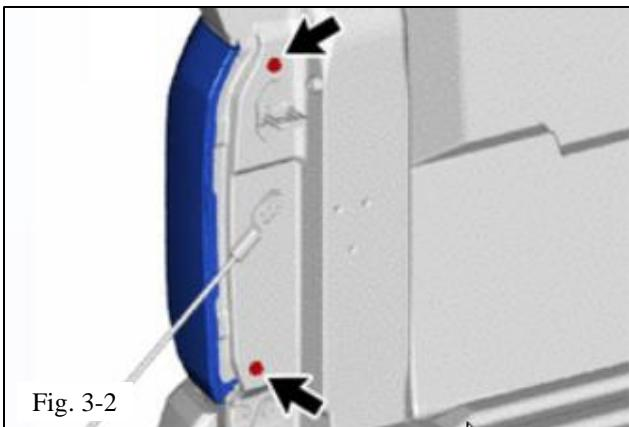

Fig. 3-2
(1) Remove 2 bolts (Fig. 3-2).
(2) Pull the LH Rear Combination Light Assembly away from the vehicle to disengage the two pins to remove it.
(3) Detach the clamp and connector(s).